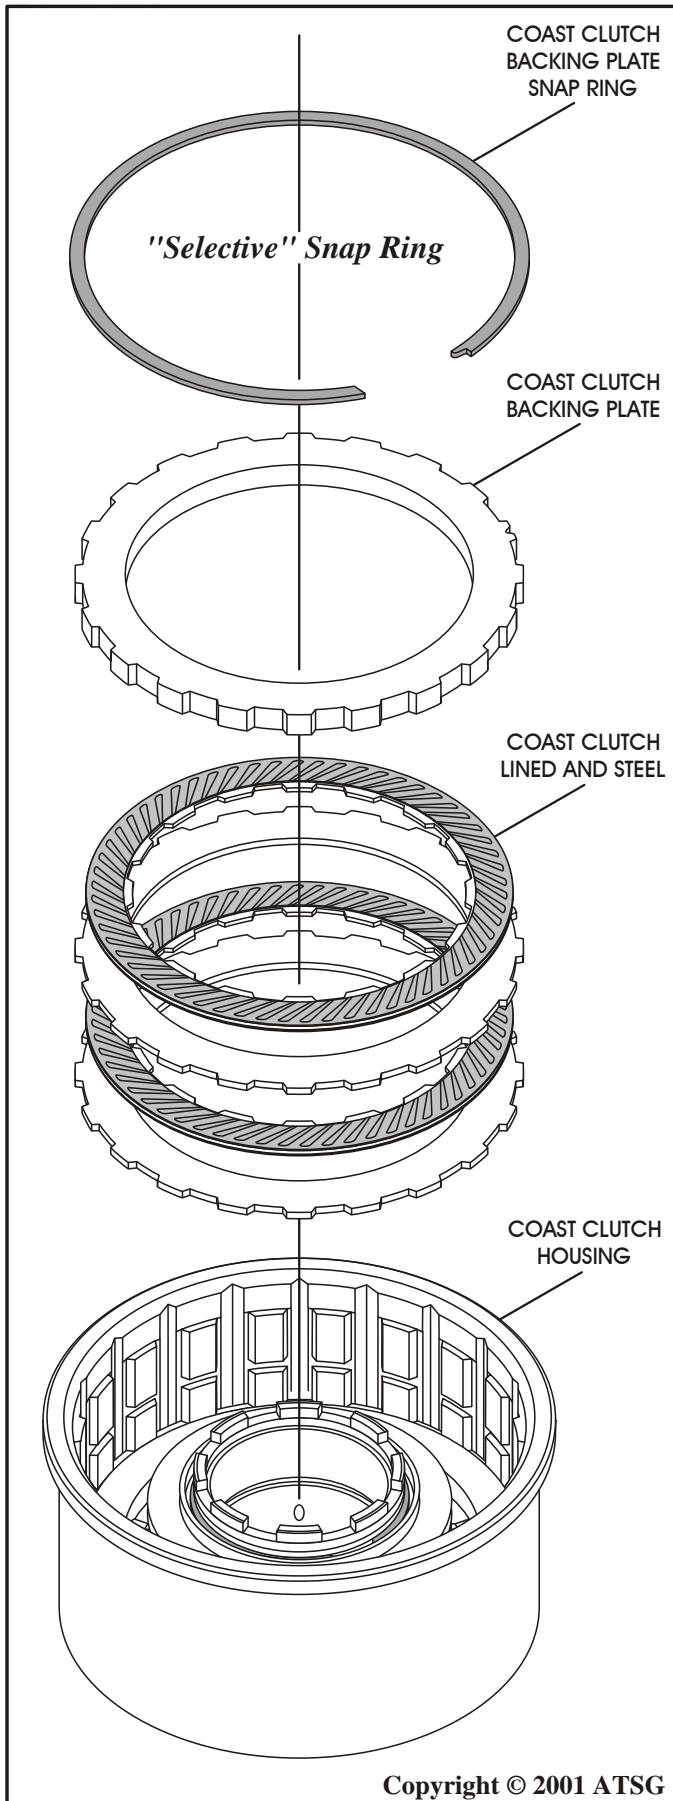

Figure 67
14. Install the friction and steel coast clutch plates into the coast clutch drum, beginning with a steel plate and alternating with a friction plate, until you have installed two of each, as shown in Figure 67.
- CAUTION:** *Coast Clutch friction plates are directional and must be installed with the grooves facing clockwise, as shown in Figures 67 and 68. Friction plates should be soaked in Mercon V® for at least 30 minutes before installation.*
15. Install the coast clutch backing plate, as shown in Figure 67.
16. Install the coast clutch backing plate snap ring, as shown in Figure 67 and ensure that it is fully seated in the groove (See Figure 67).